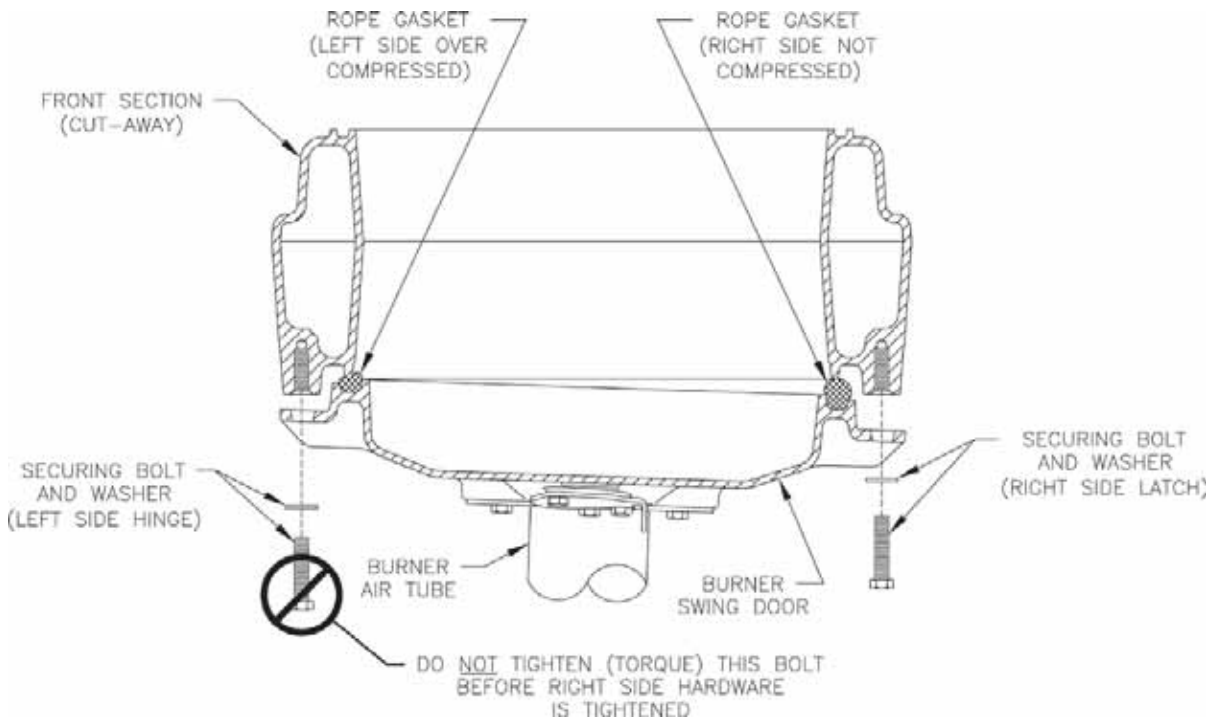

Figure 17: Top View - Burner Swing Door Fully Closed but Not Properly Secured or Sealed
- e. Failure to follow the prescribed procedure could cause thread damage to casting and /or leak at the door seal. IF LEFT SIDE TAP BOLT IS TIGHTENED BEFORE RIGHT SIDE TAP BOLT, RIGHT SIDE OF THE DOOR CAN NOT BE DRAWN-IN TO PROVIDE AN AIR-TIGHT SEAL, as shown in Figure 17. Applying excessive torque will only cause thread damage.